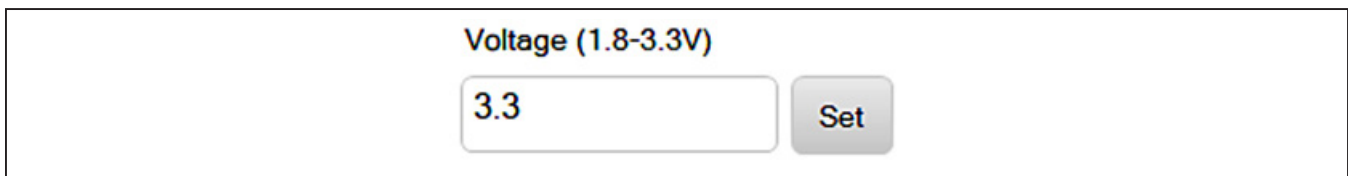

Figure 8. Supply Voltage.
- c. Enter a supply level into the “Voltage” text box in units of V and click the <Set> button; for example, enter “3.0” for a 3.0V supply (see Figure 8).